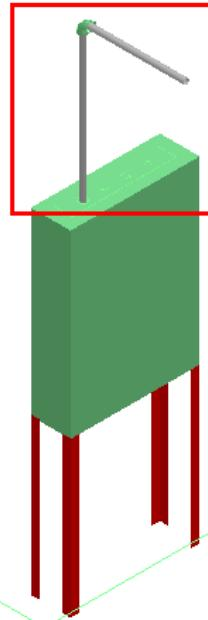

Figure 12: Conduit Run in the South Direction
13. Move the cursor in the South direction in the graphic view and click in the graphic view to accept the position of the conduit as shown in the highlighted section of Figure 12. Right -click to terminate the **Route Conduit** command.